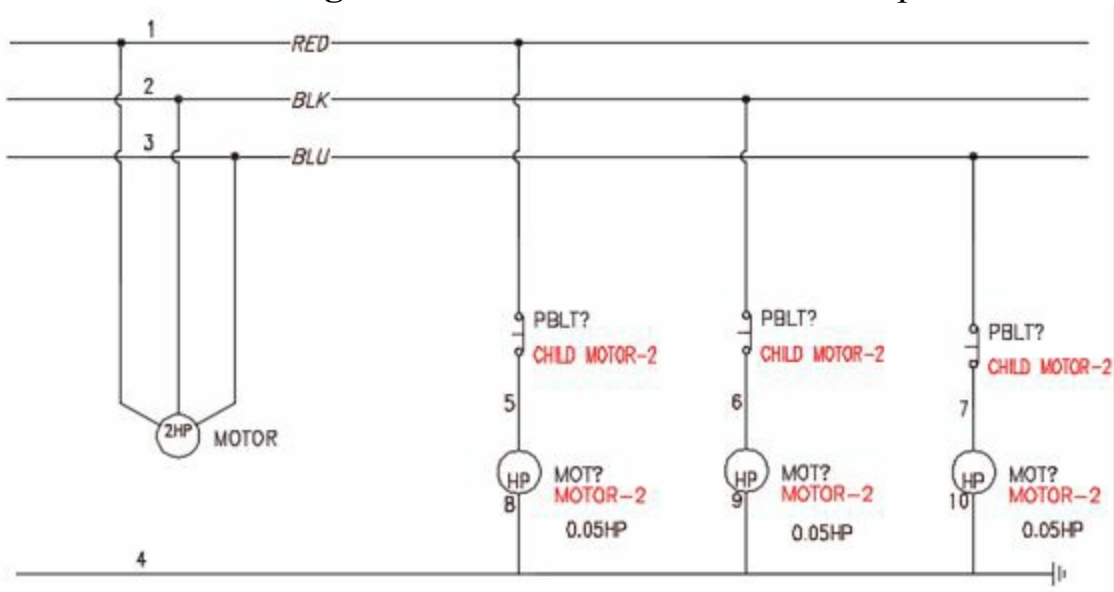

Figure-74. Circuit after connecting components
- Click on the **Catalog Browser** button and insert the components as shown in Figure-74.